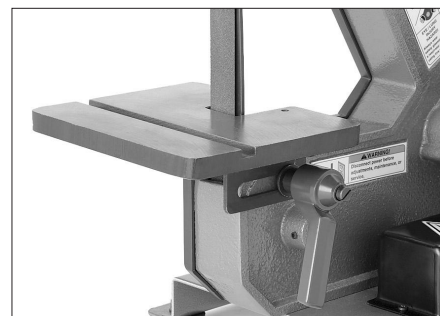

Fig.19
18. Install the belt table with a 1/16" clearance from the sanding belt, and secure it in place with the table lock handle (see Figure 19).